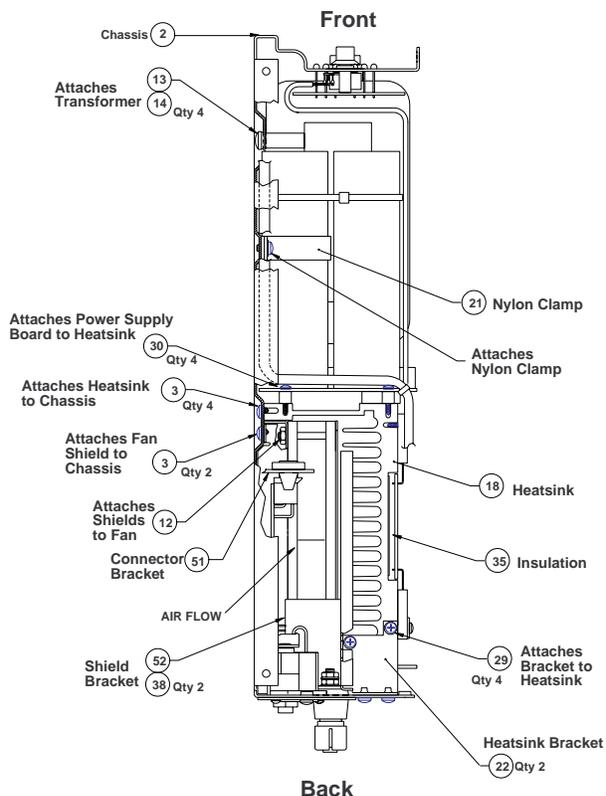

Figure 8. Side View - Bottom Mounted Components
18.4 Secure the power supply large capacitors to the chassis by tightening one screw into the nylon clamp (21). See Figure 8.